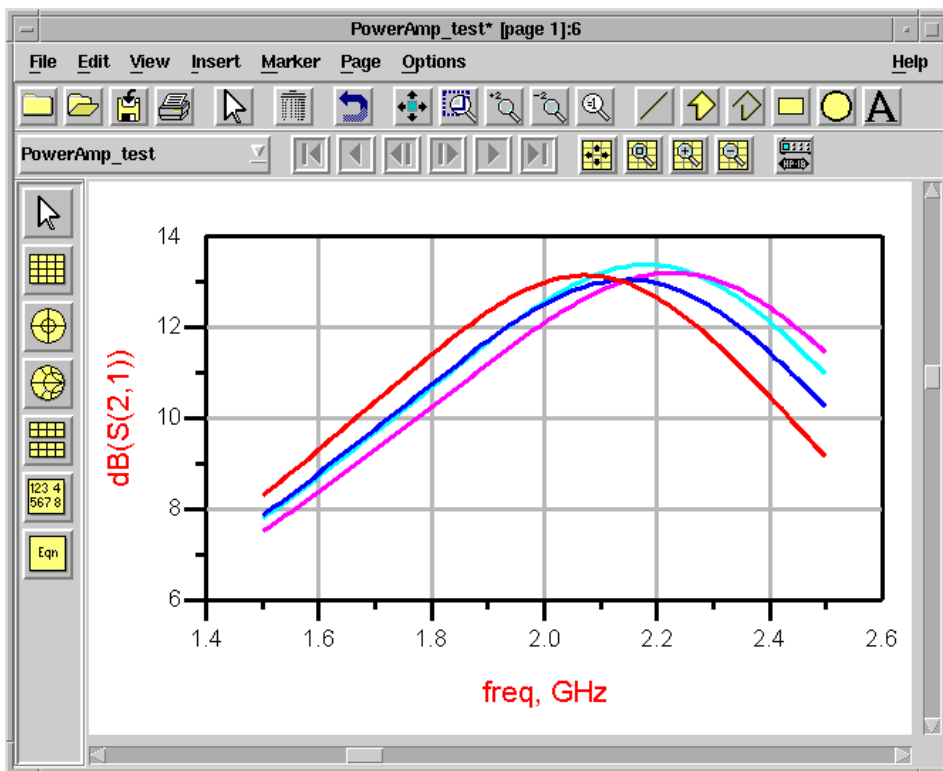

Figure 7-6. Four results of $S(2,1)$
11. Finally, drag the slider for *PowerAmp_test.VAR1.Remitout* to 120 (Ohms). Observe the results in Data Display window each time you release the mouse button after dragging the slider in the Tune Control dialog box to a desired location. **Figure 7-6** shows four S(2,1) curves displayed in the same Data Display window as results of changing *R7.R*, *R0.R* and *VAR1.Remitout* in the Tune Control dialog box.